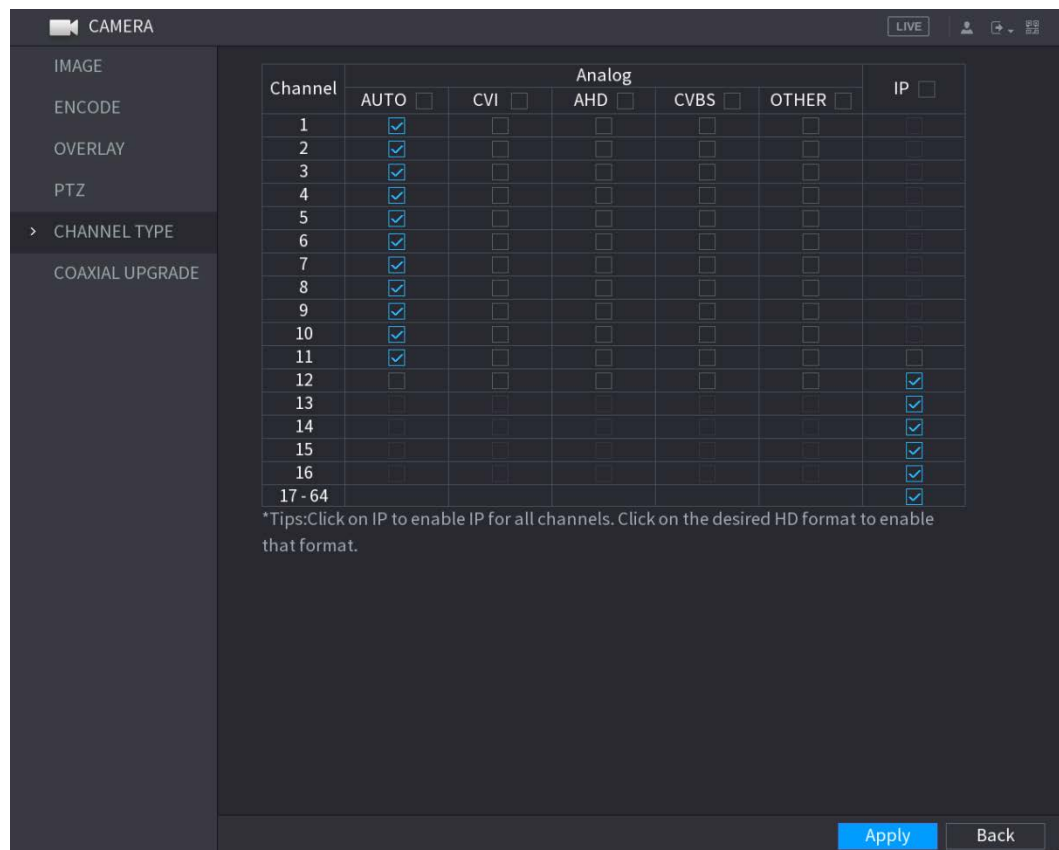

Figure 5-70
The **CHANNEL TYPE** interface is displayed. See Figure 5-70.
- IP Channel: You can enable the IP channels by disabling the corresponding analog channels. The Device also provides expanded IP channels for your use, such as the **17–64** channels in Figure 5-70.